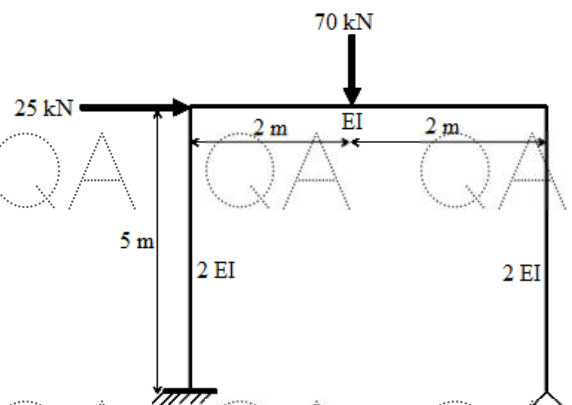

Figure 1
- Using moment-distribution method, analyse the frame shown in Figure 1. Draw BMD. [10]